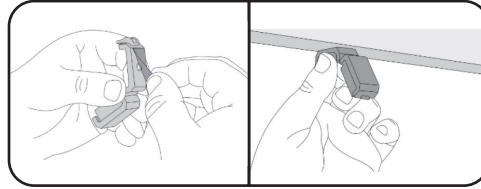

fig 4.3
- Peel the adhesive backing off a cable management clip and place it on the ceiling. Be sure to press firmly to ensure it sticks. (fig 4.3)